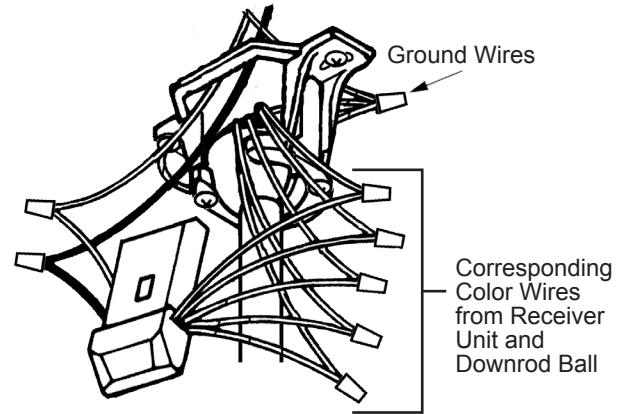

Figure 5.7
Step 7. Securely connect each of the Receiver Unit wires to its corresponding color wire exposed from the top of the Downrod Ball with a connecting wire nut. Also, connect all Ground wires (green) with the main Ground wire from the Electrical Box. (Fig. 5.7)